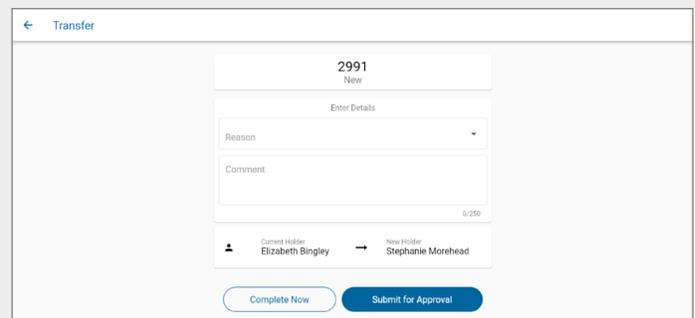

Fig. 123 – Transfer screen – Fill in transfer details and submit
5. Select a reason for the transfer from the **Reason** dropdown menu, as shown in Fig. 123.